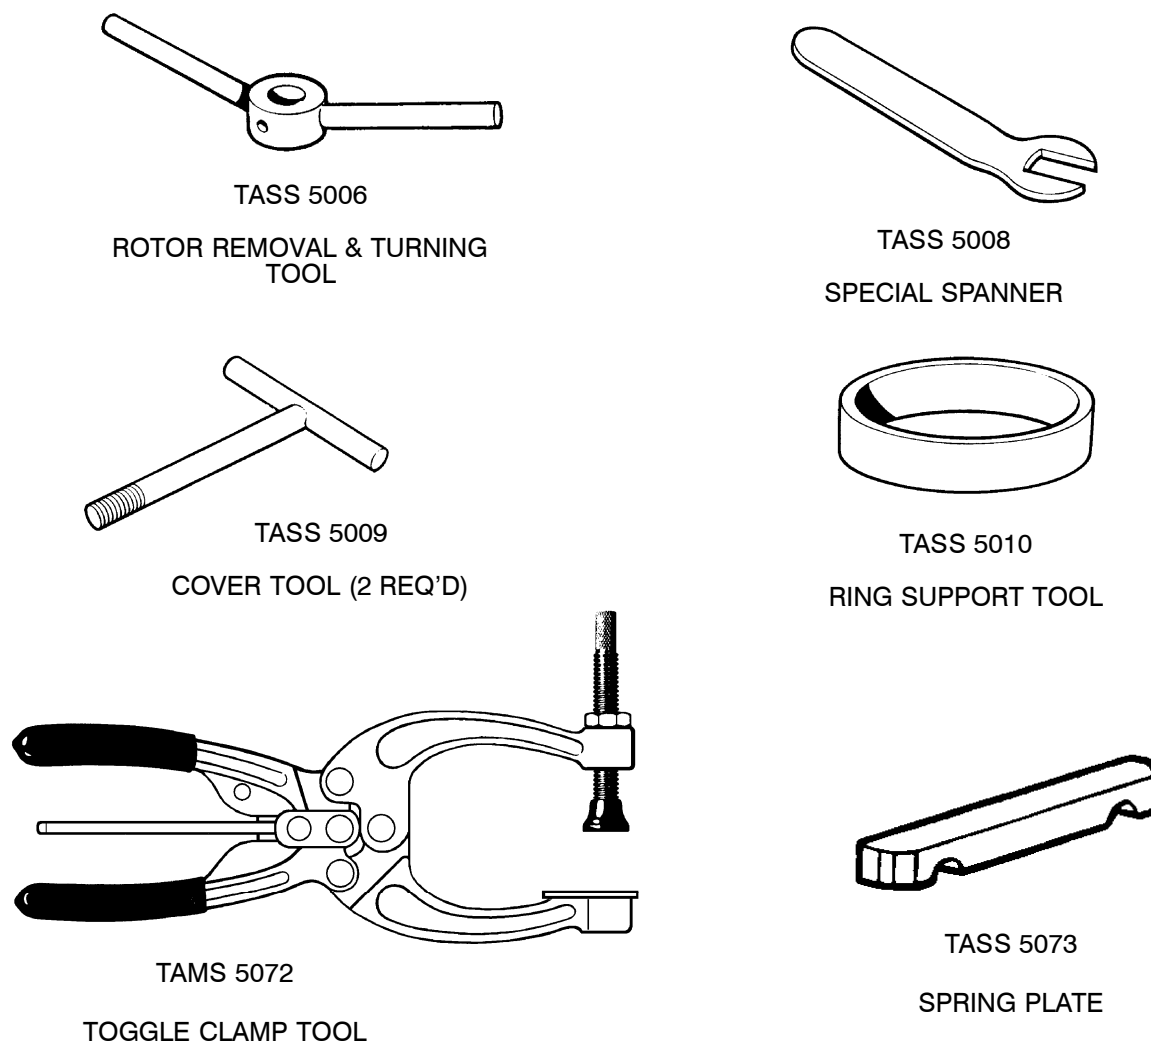

FIG 5.1 SPECIAL TOOLS
- 1.3 Special tools as shown in Fig 5.1 have been designed to assist in dismantling and re-assembling.